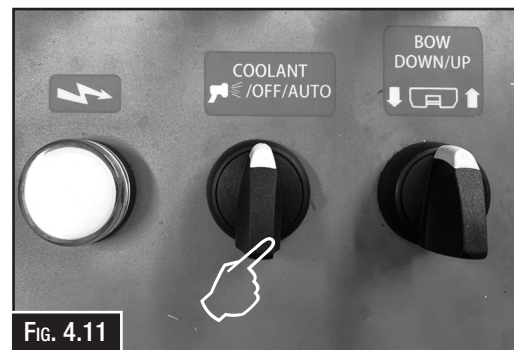

Fig. 4.11
7. **Cooling and clean system:** Turning the coolant switch (Fig. 4.11) to “auto” mode, allows the coolant to turn ON when the cycle starts and turn OFF when the cycle stops. When the coolant switch is turned to the left the coolant is diverted to the hose and spray nozzle on the back of the machine to be use when cleaning the swarf away from around the blade and vice area.